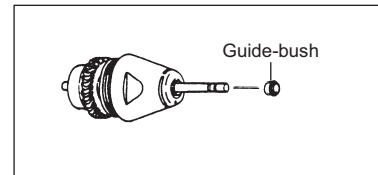

Fig. 14
- ② Set the longer one of the guides of the guide bushings on the end of the rotor shaft along the test bur. (Fig.14)